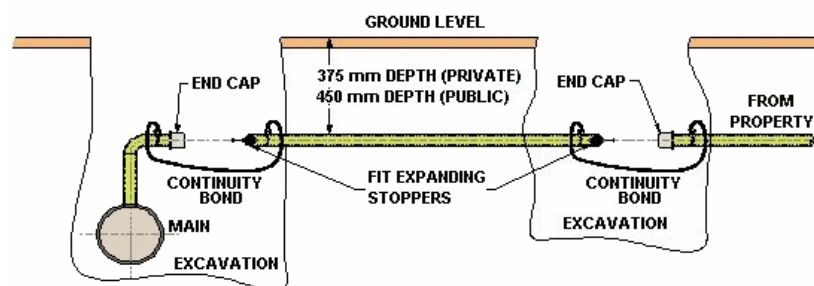

Figure 38 - Service cut off prior to dead insertion – external position
7. Excavate either at the service connection at the main or at a location described in Section B14. (Figure 37 - Service cut off prior to dead insertion – internal position & Figure 38 - Service cut off prior to dead insertion – external position)